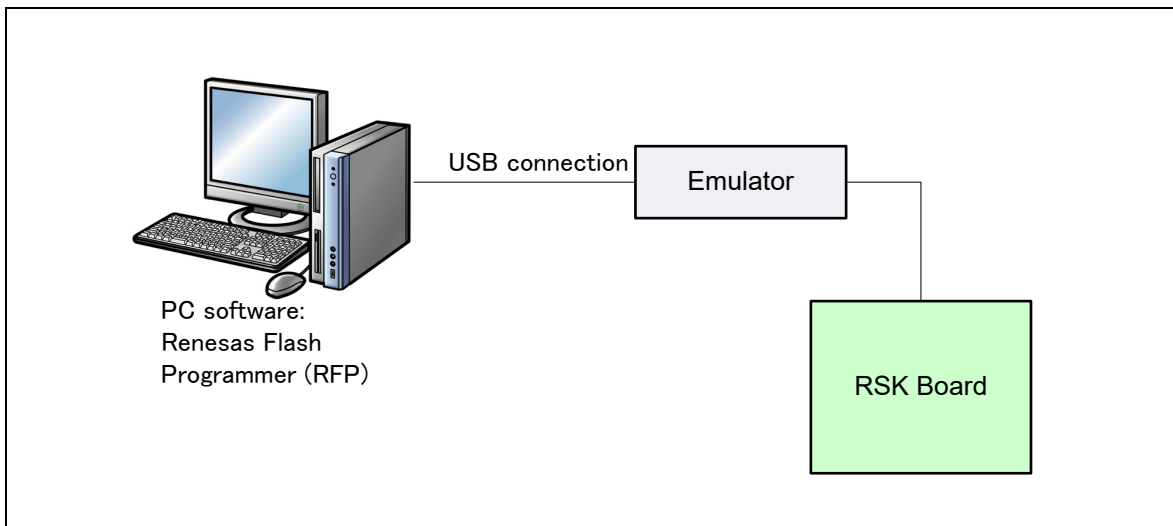

Figure 4-2 Connection Diagram Using an Emulator
- This program can be written to the user boot area when using an emulator (as in **Figure 4-2**).
- (2). Writing the Internal Flash ROM rewrite program via USB CDC